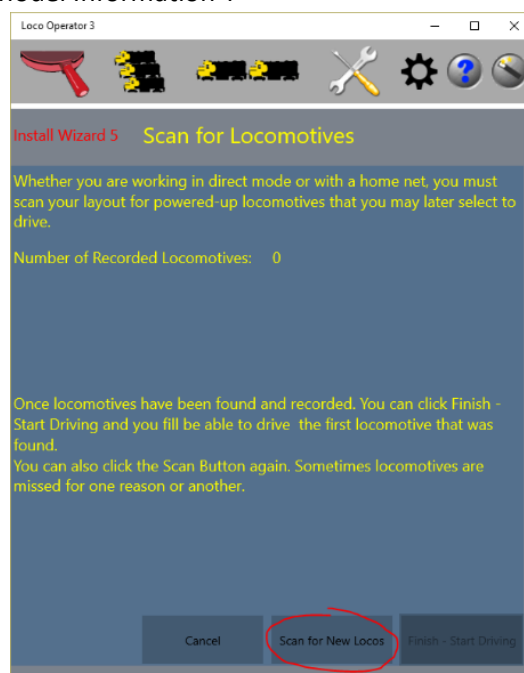
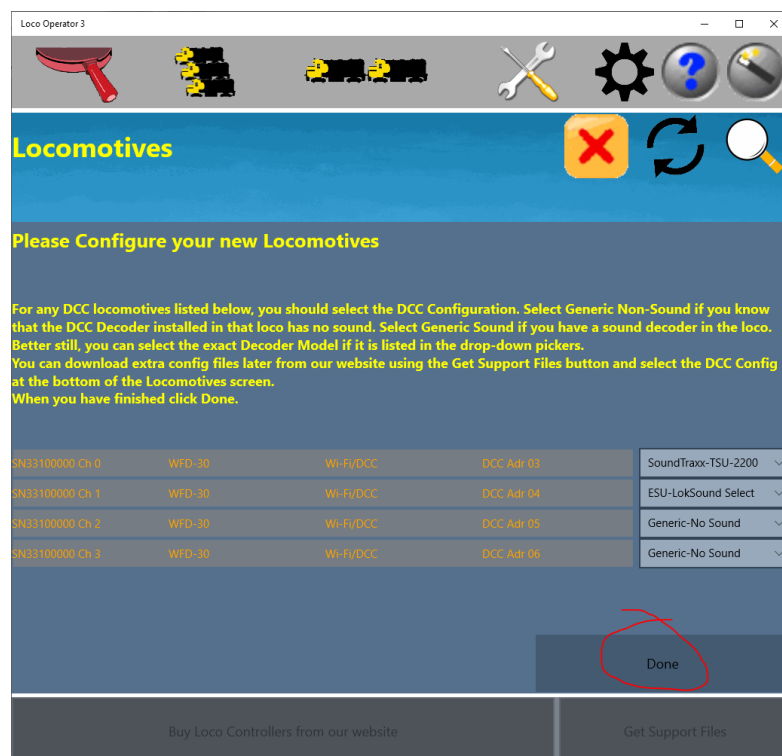

Figure 37 Install Wizard Page 5
Figure 38 Install Wizard - New Locomotives Found
- (3) You now see the Install Wizard 5 screen as Figure 37. This screen allows you to scan for locomotives or other WifiTrax controllers. Click the Scan for New Locos button and click Continue on the pop-up. Your new locomotives should now appear as entries in a list as Figure 38. For WDMI-27, you will see the default roster (4 locos out of 16 maximum), there is a pop-up allowing you to select the DCC Decoder that you have installed. The default is Generic-Sound. When you have made your selections click Done. If your decoder is not in the drop-down list, select a generic option and see the section “Customizing Decoder Model Information”.